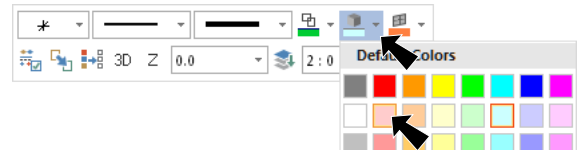

Fig. 20
Step 1. **Right click** in the graphics window and on the Mini Toolbar click **Solid Color**  drop down arrow, then click **light red**, Fig. 20.